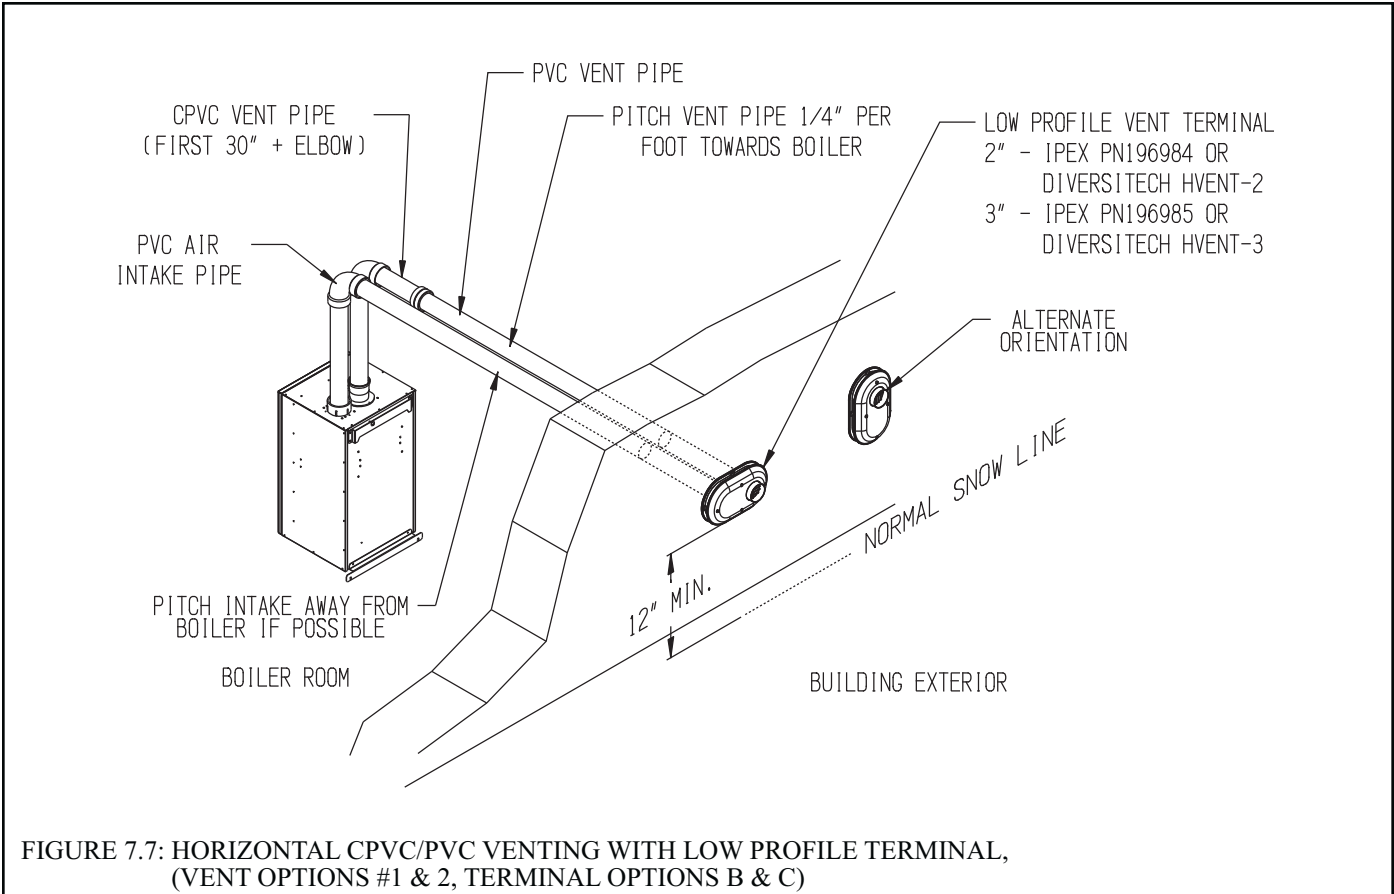

FIGURE 7.7: HORIZONTAL CPVC/PVC VENTING WITH LOW PROFILE TERMINAL, (VENT OPTIONS #1 & 2, TERMINAL OPTIONS B & C)
**Terminal Option B: Ipex Low Profile Terminal (Acceptable for Vent Options 1,2)** – This terminal is shown in Figure 7.7. If the terminal is oriented vertically (alternate orientation shown in Fig 7.7) the exhaust opening must be on the top as shown. See Part VII-E of this manual and the Ipex instructions provided with the terminal, for installation details.
**Terminal Option C: Diversitech “Low Profile” Terminal (Acceptable for Vent Options 1,2)** – This terminal is shown in Figure 7.7. If the terminal is oriented vertically (alternate orientation shown in Fig 7.7) the exhaust opening must be on the top as shown. See Part VII-E of this manual and the Diversitech instructions provided with the terminal, for installation details.